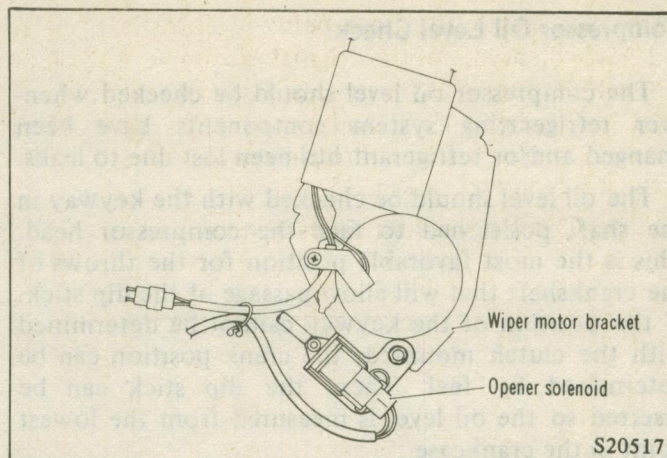

Fig. 33 Installing of Opener Solenoid
- (6) Install the solenoid to wiper motor bracket as shown in Fig. 33.